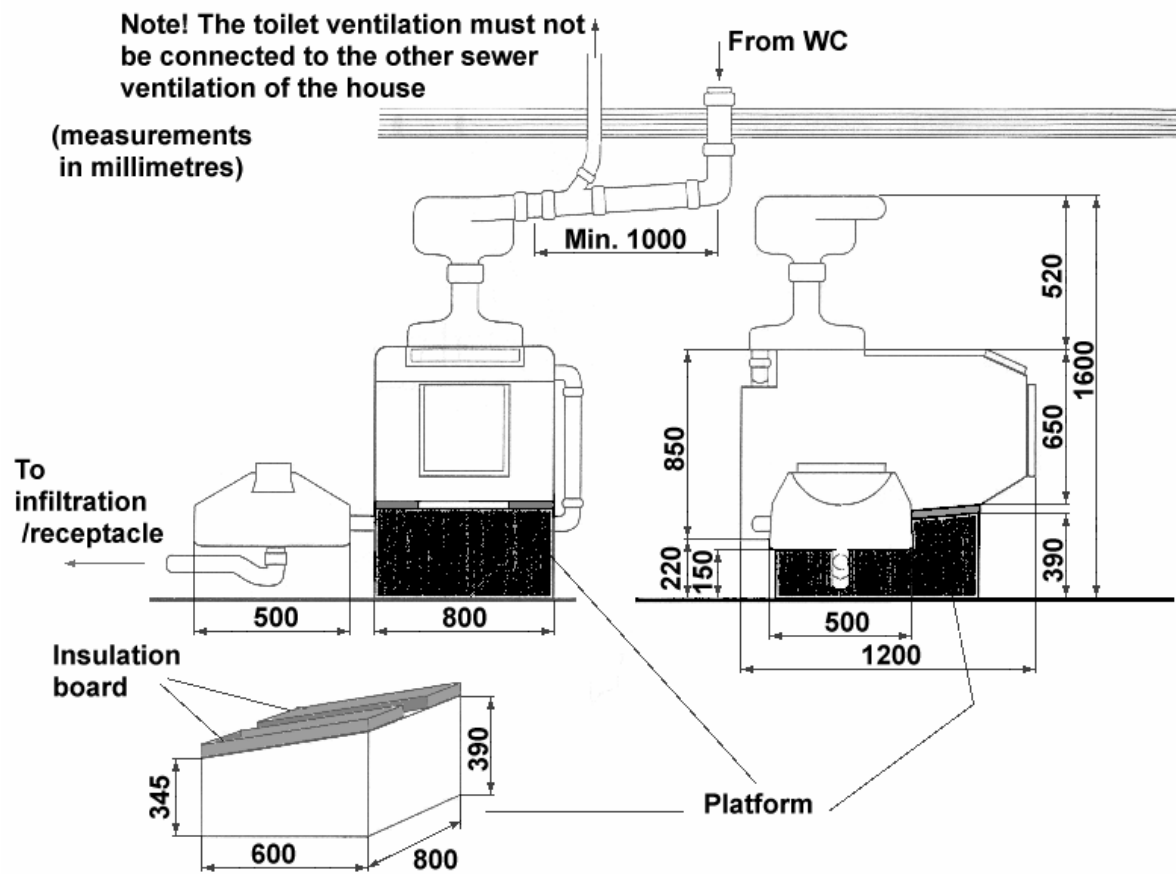

Figure 2: Aquatron 400 installation measurements
- 4.1.1 Build a platform for the Bio Chamber. Position a 2" (50 mm) insulation board on top of the platform. For measurements see Figure 1 (Aquatron 90) and Figure 2 (Aquatron 400). Put the Bio Chamber steadily on the platform.